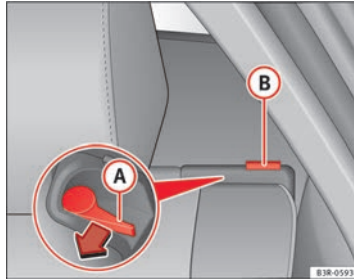

Fig. 114 Backrest release lever
- Press the release lever **A** ⇒ Fig. 114 in the direction indicated by the arrow.